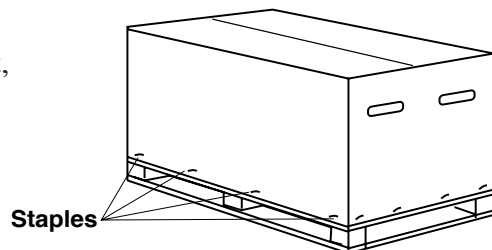

Fig.3-1 Base Section Carton
- (1) Remove all the staples fixing the carton to pallet, or cut the carton just above the stapled line, and remove the carton. (Fig.3-1)